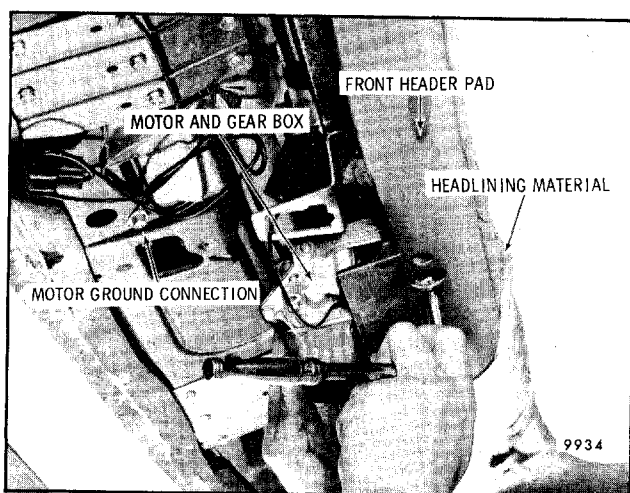

Fig. 8-101-Motor and Gearbox Mounting Location
10. Remove two motor and gearbox assembly retaining screws (Fig. 8-101) and remove motor with its spacer.